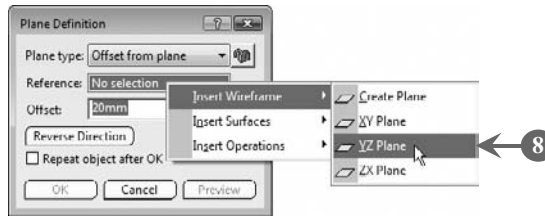

FIGURE 5.69
The **Plane Definition** dialog box opens (**Figure 5.69**).
8. *Right-click* inside the **Reference** box and *select* the **Insert Wireframe > YZ-Plane** option from the context menu to specify the  $yz$ -plane as the reference plane for the sketching plane to be created, as shown in Figure 5.69: